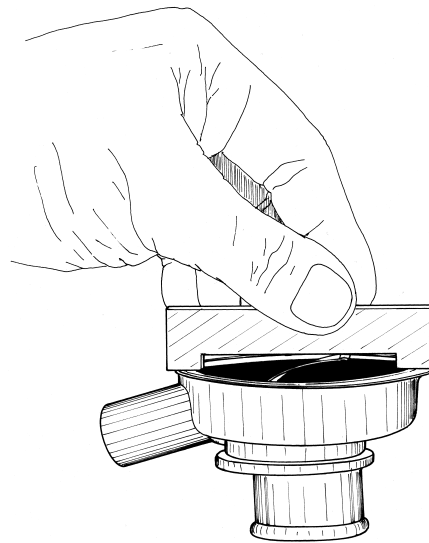

FIG. 3
6. Rest the ends of the gauge on the edge of the 2nd stage case. (Fig. 3)